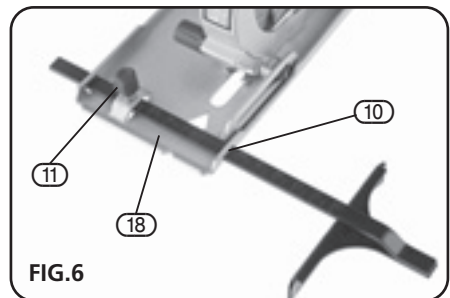

FIG.6
9.3 SETTING THE PARALLEL GUIDE FENCE - FIG.6